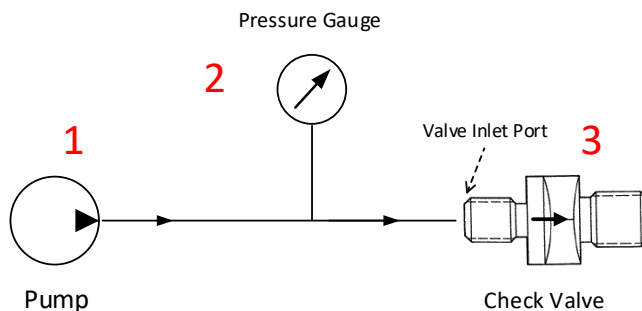

Figure 9: test setup Test Title 2 - 3(3)
(2) Flushing
(3) Cracking Pressure
- Test set up in accordance to Figure 9.
(5) Proof Pressure Test: